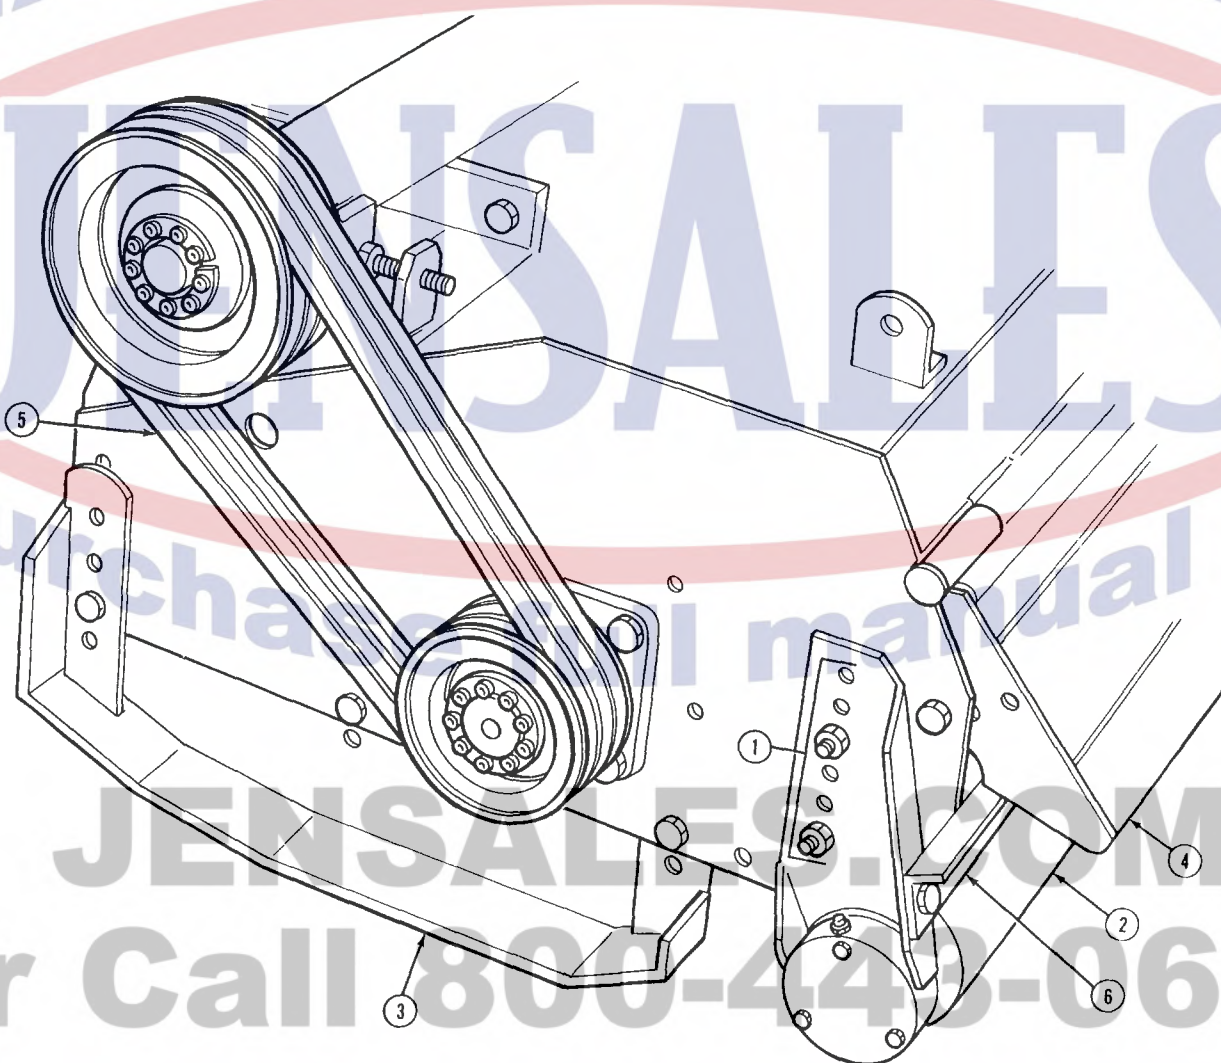

Figure 8
Refer to Figure 8
Then increase or decrease the length of the tractors adjustable top link, to set the exact cutting height. The skid shoes have to be set in such a way that they just prevent scalping on rolling terrain. Adjust the roller scraper (6), Figure 8, until it just clears the roller.